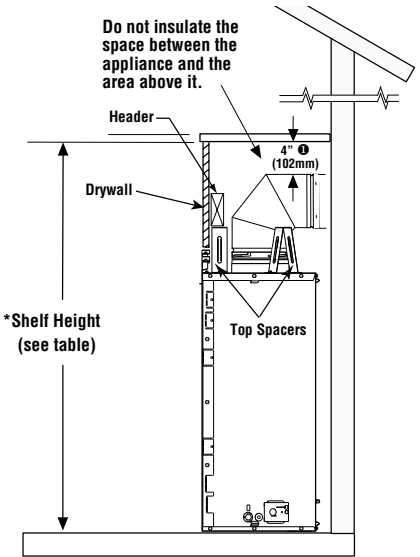

Figure 8 - Minimum Shelf Height Above Fireplace
Do not insulate the space between the appliance and the area above it (see Figure 8 on Page 8).
The minimum height from the base of the appliance to the underside of combustible materials used to construct a utility shelf in this fashion is shown in **Figure 8 on Page 8**.
- * Note: 3 in. (75 mm) above any horizontal vent component. See Note ❶ in Figure 8.
To provide for the lowest possible shelf surface, the venting attached to the top vent should be routed in a way to minimize obstructions to the space above the appliance. Do not insulate the space between the appliance and the area above it (see **Figure 8**). The minimum height from the base of the appliance to the underside of combustible materials used to construct a utility shelf in this fashion is shown in the table in **Figure 8**.